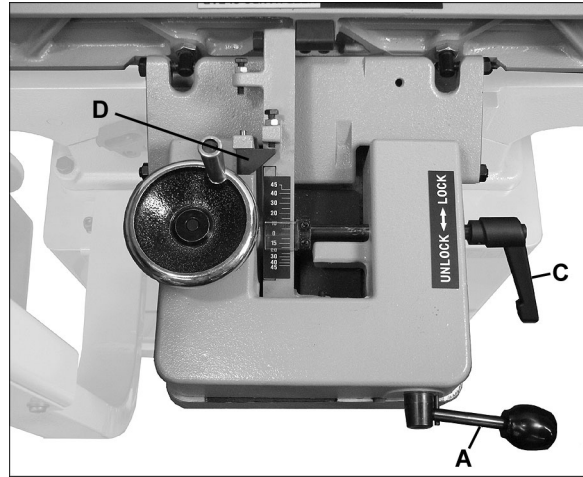
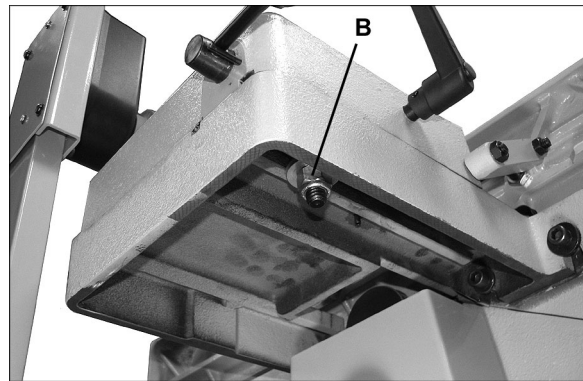

Figure 27
Figure 28
Refer to Figure 27.
NOTE: The lock handle (A, Figure 27) may be adjusted to a more convenient position by loosening the hex nut below the casting (B, Figure 28), turning the handle to the proper position, and retightening the hex nut.
1. Loosen locking handle (C, Figure 27).
2. Place an angle measuring device on the table and against the fence. Tilt the fence to desired angle using the handwheel, and tighten locking handle (C) to secure the setting.
2. Flip the stop block (D) out of the way.
3. Tilt the fence to desired angle using the handwheel, and tighten locking handle (B) to secure the setting.